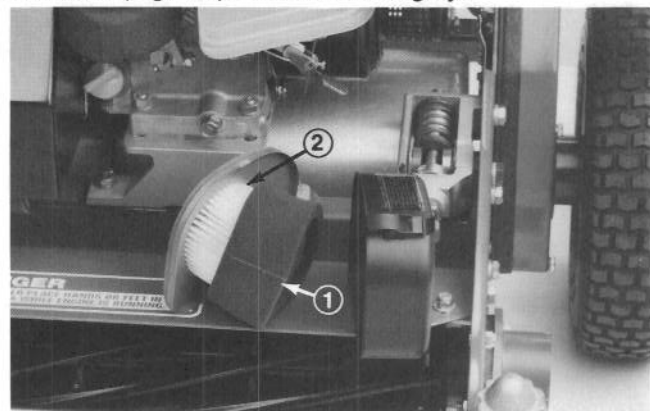

Figure 32
3. If foam element is dirty, remove it from paper element (Fig. 32). Clean thoroughly.